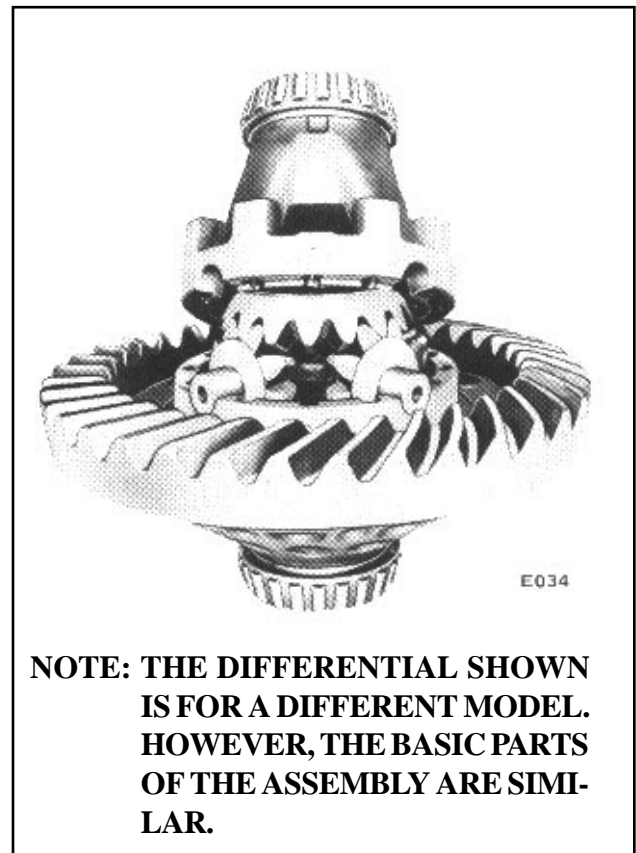

FIGURE 6. ALIGNMENT MARKS ON CASE FOR ASSEMBLY
C. Put identification marks on each half of the case. See Figure 6. Remove the capscrews that hold the differential case together. Remove the spider gears, spider, thrust washers and side gears. Do not remove the ring gear unless it is damaged. Remove the bearings.